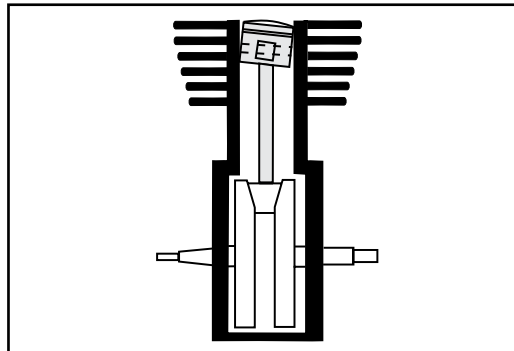

Figure 3
- D. Move piston towards driveside of engine and repeat Step C. If inaccuracies are present due to machining variations in cases, cylinders or pistons, top land of piston deck will appear closer to cylinder wall at one point around circumference. This means that piston is cocked in cylinder bore and can be corrected by bending rod in opposite direction. **Figure 3** shows an exaggerated side view of this condition.